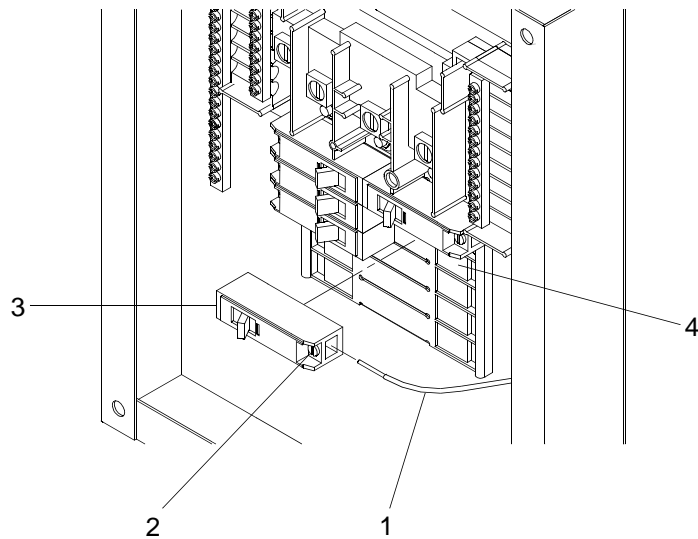

Figure 2. Circuit Breaker Replacement
3. Label wire (figure 2, item 1).
4. Loosen screw (figure 2, item 2).
5. Pull wires (figure 2, item 1) straight out of circuit breaker (figure 2, item 3).
6. Firmly grasp circuit breaker (figure 2, item 3), rotate circuit breaker (figure 2, item 3) outward from mounting cleat (figure 2, item 4) and remove. Discard circuit breaker (figure 2, item 3).
7. Install back side of new circuit breaker (figure 2, item 3) into mounting cleat (figure 2, item 4).
8. Rotate circuit breaker (figure 2, item 3) until it snaps into position.
9. Coat wire (figure 2, item 1) with silicone grease.
10. Install wire (figure 2, item 1) into circuit breaker (figure 2, item 3) and remove label.
11. Tighten screw (figure 2, item 2).
14. Position circuit breaker (figure 2, item 3) to on position.